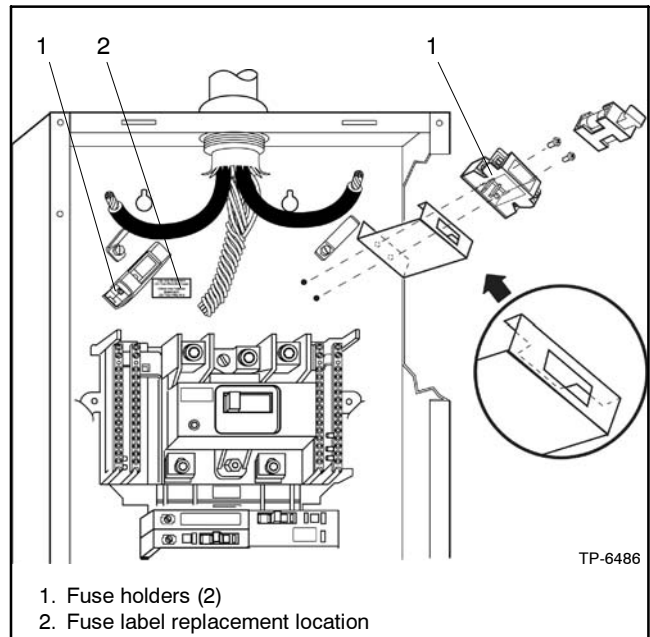
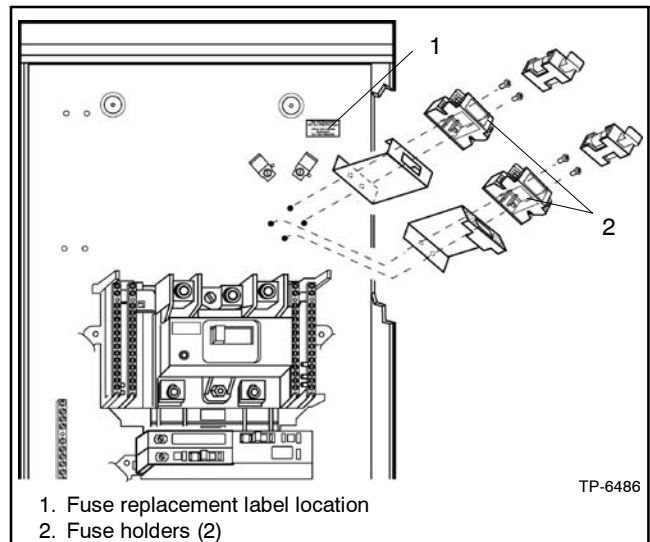

Figure 5-1 Mounting Fuse Holders, Type 1 Enclosures
Figure 5-2 Mounting Fuse Holders, Type 3R Enclosures
6. Referring to Figure 5-1 and Figure 5-2, locate the fuse holders in the load center. Pull the fuse clips from both fuse holders.